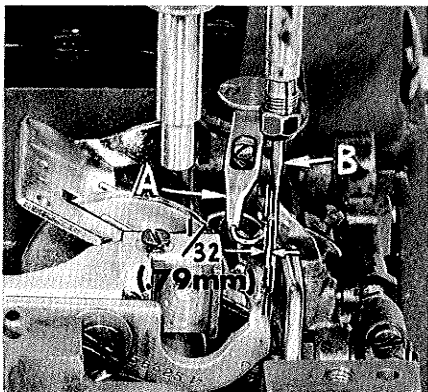

Fig. 18
As the retainer (A, Fig. 18) passes behind the needle (B), going from right to left, and the point of the retainer hook reaches the right side of the needle, the distance between the back of the needle and point of the retainer should be $1/32$ inch (.79 mm) (See Fig. 18). When the retainer reaches the extreme left end of its travel, the point of the loop retainer hook (A) should be $5/32$ inch (3.97 mm) from the centerline of the needle (See Fig. 19). These dimensional settings can be made by loosening screws (B, Fig. 19), reposition loop retainer hook (A) as required and retighten screws (B).